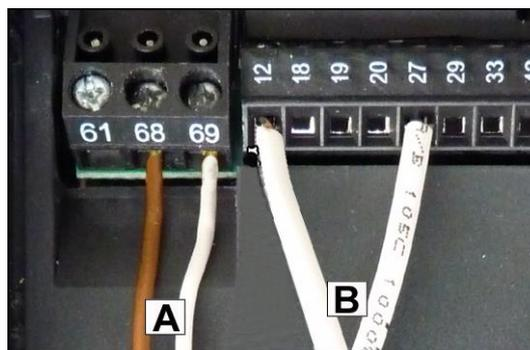

Fig. 3.17
4. Disconnect the communication wires **A** and the motor's thermal protection wires **B** (Fig. 3.17).